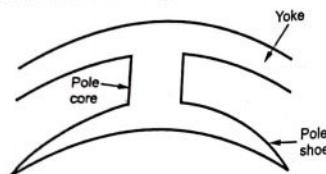

Fig. 7.3.2 Pole structure
- This is shown in the Fig. 7.3.2.